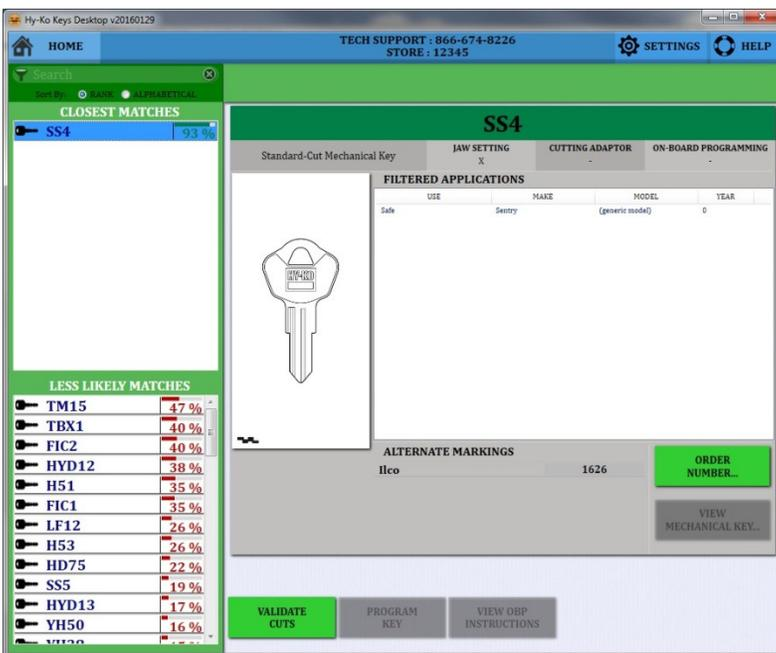

fig. 50
- Click on any key number to see the information on that particular key. An image of the blank and the cross section will be shown as well as other manufacturer part numbers and applications (see fig. 50).